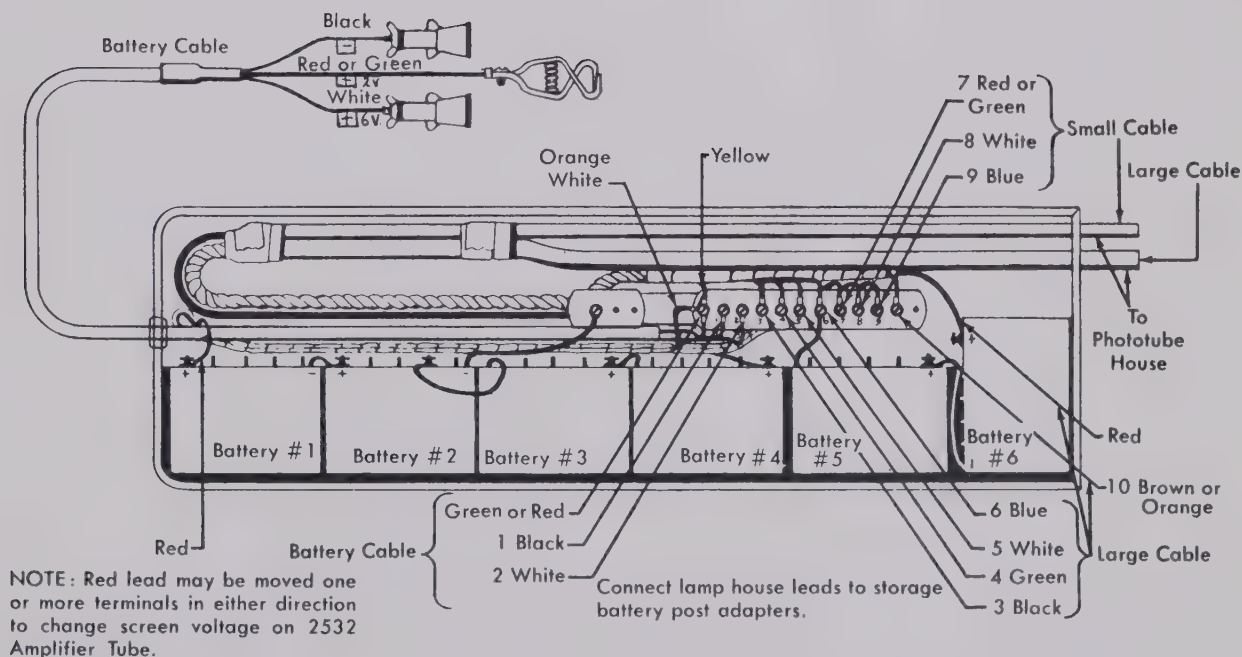

FIGURE 7A. DIAGRAM OF DU BATTERY COMPARTMENT
- (8) Remove nut attaching right end of terminal strip to instrument.
- (9) Place Filter Chassis Assembly (provided with Power Supply Unit) in space originally occupied by Battery No. 5. (See Figure 7A). Mounting bracket hole will align with screw hole in terminal strip.
- (1) Disconnect Battery Power Regulator from a-c electrical source.
- (2) Remove cover from Battery Power Regulator, and remove all cable leads from terminal strip.
- (3) Remove DU Cell Compartment Cover, Cell Holder, and Lamp House Cover.
- (4) Invert instrument on two padded blocks spaced between Wavelength Selector and Slit Adjustment Control.
- (5) Remove Bottom Cover Plate from Battery Compartment.
- (6) Remove nut attaching right end of DU terminal strip.
- (7) Place Filter Chassis Assembly provided with Power Supply in space originally occupied by Battery No. 5. (See Figure 7A) Mounting bracket hole will align with screw hole in terminal strip.